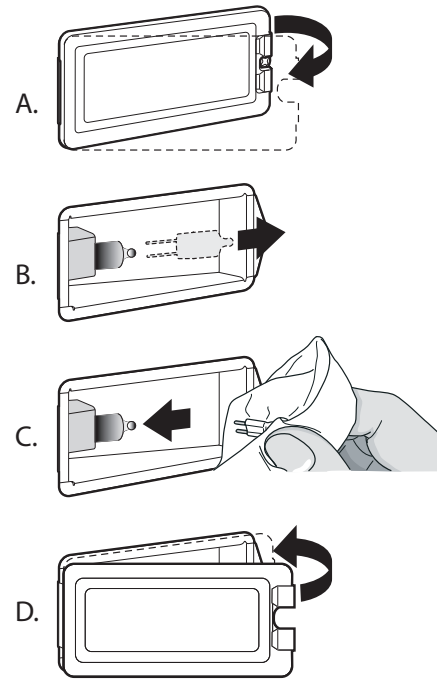

Figure 32: Bulb Replacement
3. Slide the tip of a flat blade screw driver between the fixing clip and the lamp housing (*Figure 32, A*).
6. Remove the bulb by grasping and sliding the bulb straight back until the two prongs have cleared the ceramic holder (*Figure 32, B*).
8. Press down to seat the bulb (*Figure 32, C*).
9. Slide the protective lens into the holder clip and push the other end until the fixing clip snaps back into the housing (*Figure 32, D*).